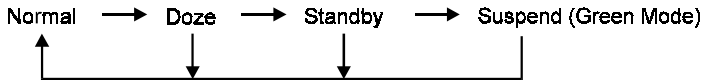

Figure 3-6 Power Saving Mode Flow Chart
- Note that enabling the Power Management function will result in enabling the HDD Power Down function (Max Saving = 15 min, Min Saving = 1 min). The HDD Power Down function is not part of the Power Management scheme as indicated in Figure 3-6. Refer to the Standby Mode, Suspend Mode, and HDD Power Down descriptions below for more information on hard drive power management.